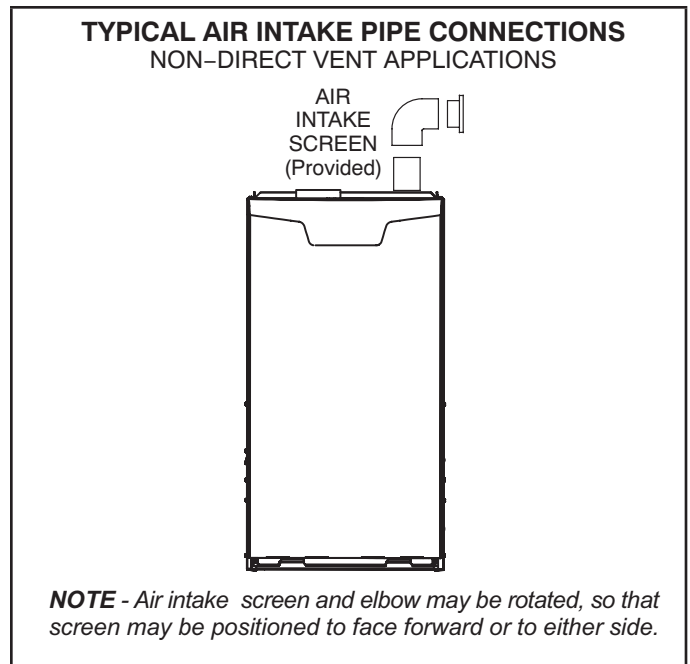

FIGURE 25
- 1 - Use field-provided materials and the factory-provided air intake screen to route the intake piping as shown in FIGURE 25. Maintain a minimum clearance of 3" (76mm) around the air intake opening. The air intake opening (with the protective screen) should always be directed forward, or sideways.